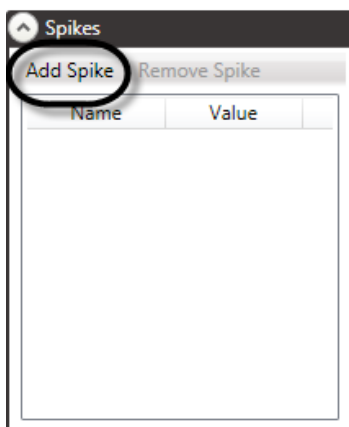

Figure 218
2. Scroll to the **Spikes** section in the **Motor Editing Pane** and click **Add Spike** (Figure 218).